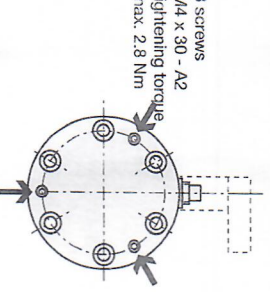

Fig. 5-1: BTL housing screws
Step 1: Remove 3 M4 x 30 screws (see Fig. 5-1) and replace with 3 M4 x 60 screws (not included).